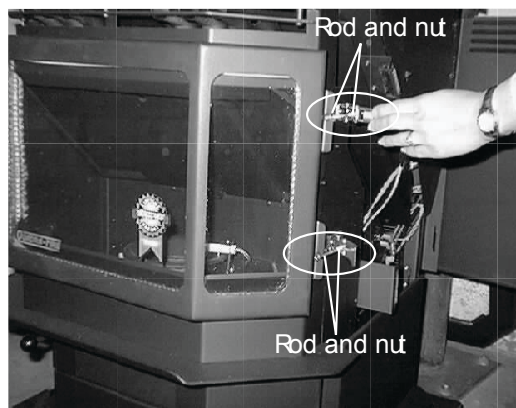

Figure 23.2
3. Latch must close tightly enough to ensure an airtight seal between the door and the body of the appliance. To increase tension on the latch, turn the rod clockwise a few turns, then attempt to close the latch, until it is snug. Do not overtighten; you should be able to close the latch with your hand. **Figure 23.2.**